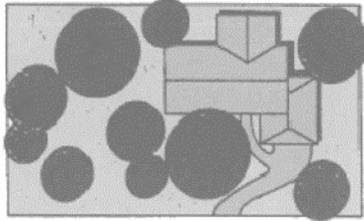

Figure 3. This drawing shows location of the trees and building.
- Location of buildings, utilities, and hardscape features. [Figure 3]